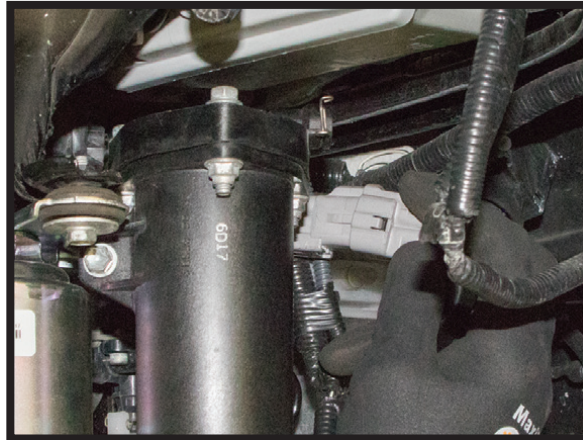

FIGURE 24
2. REINSTALL THE ELECTRICAL. (FIGURE 24)